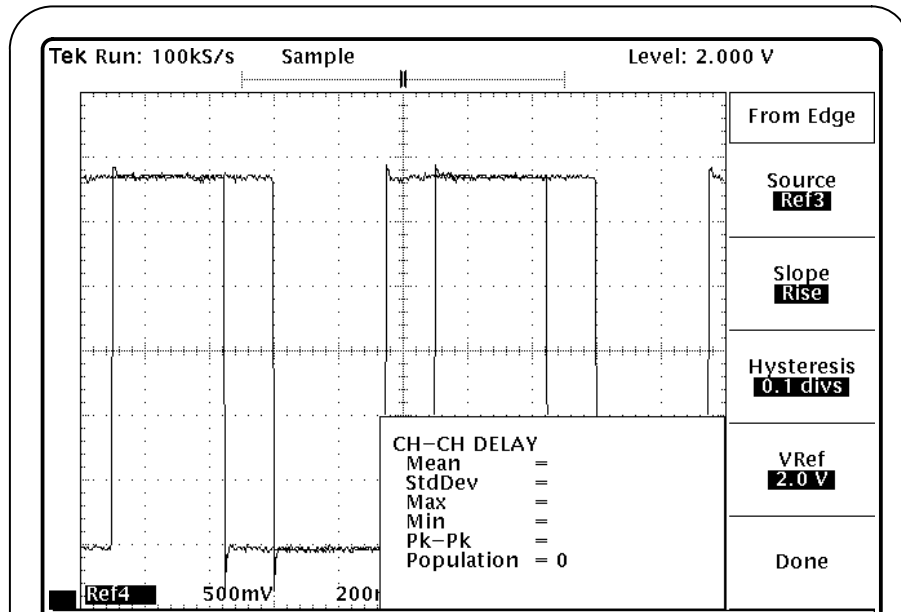

Figure 19: From Edge menu, source
- a. Press **Source** (side) and select **Ref3**. See Figure 19.
- b. Press **VRef** (side) and use the keypad to enter **2.0 V**. See Figure 19.